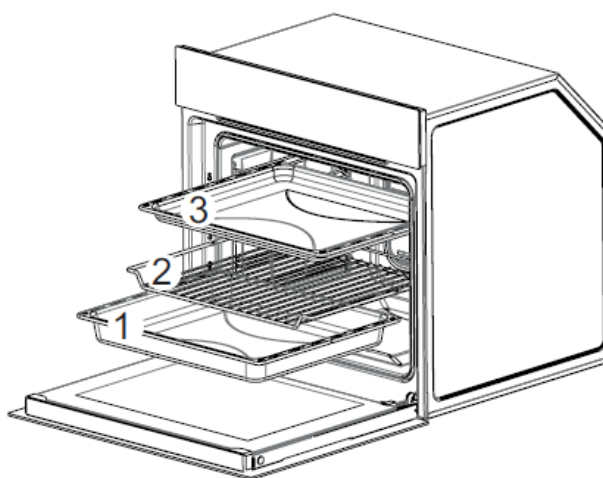

Fig. 16
- Remove the trays and the grill respectively (1-2-3 / Fig. 16).